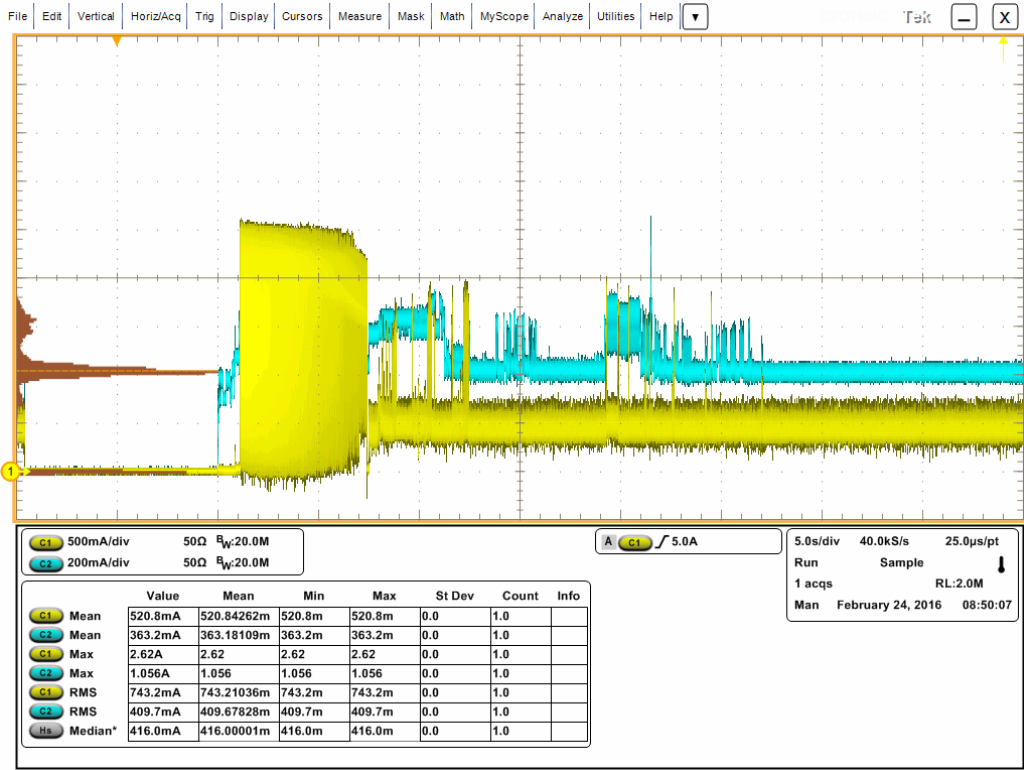

Figure 1. 6TB model current profiles
- [3] See +12V current profile in Figure 1. (for 4TB models)